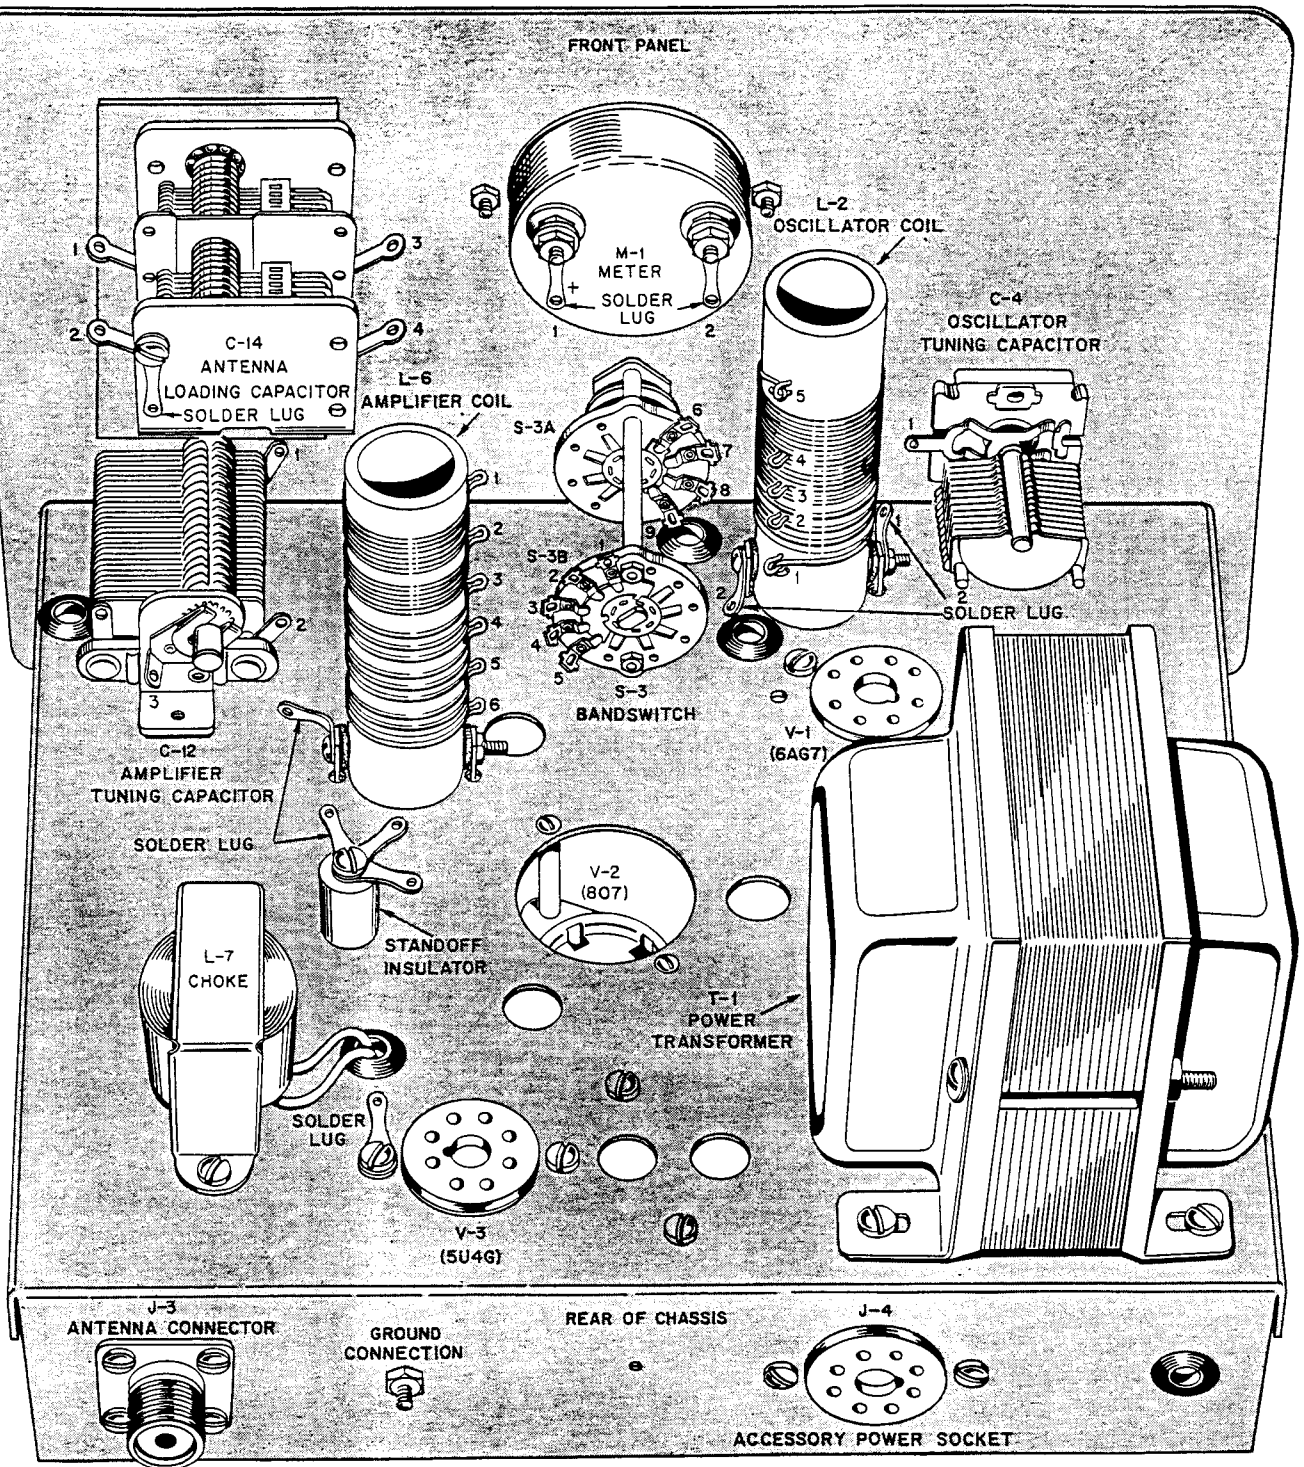

FIGURE 6. MOUNTING THE PARTS ON TOP OF THE CHASSIS
SEE FIGURE 6.
- Install S-3, the 2-section ceramic bandswitch, in the hole just below the very large round hole in the center of the front panel. Position the terminals as shown in Figure 6. Use a large lockwasher on the back of the panel, a large flat washer on the front of the panel and a large hex nut to fasten S-3.
- Mount L-6 by putting the two spade screws through the holes in the chassis as shown in Figure 6. Put a lockwasher on both spade screws under the chassis. Put a solder lug on the spade screw nearest to V-2. Fasten the coil with two 6-32 nuts.
- Mount L-2 in the position shown in Figure 6. Put a small lockwasher on both spade screws under the chassis and a solder lug on the spade screw near the two grommets. Fasten the spade screws with two 6-32 hex nuts.